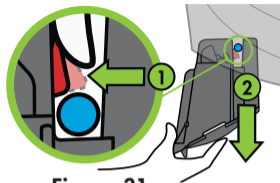

Figure 31
Use your finger to press down on the release tab to disengage LATCH bin from Base Attachment Bar (1), then slide LATCH Bin out (2), as shown in **Figure 31**.